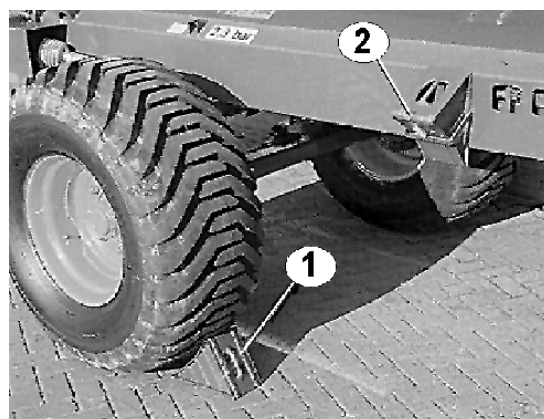

Fig. 15
- Remove chocks and secure in the pockets (Fig. 15/2) on the frame side.